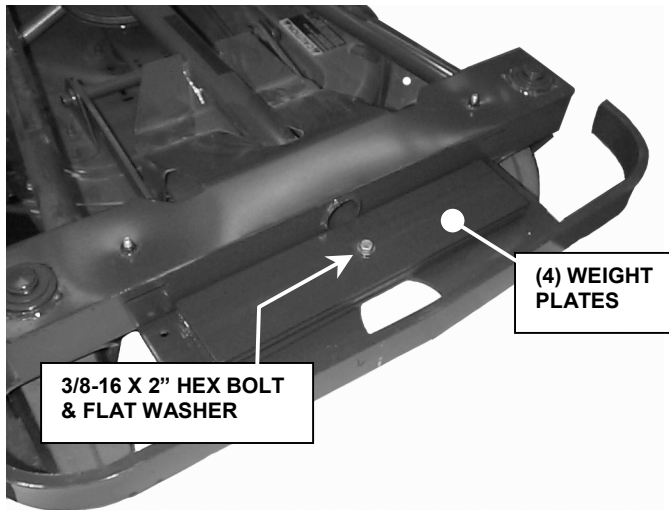

FIGURE 1.4
- Remove (4) knobs attaching floor pan to front frame. Remove floor pan.
- Attach (4) weight plates to front frame using (1) 3/8-16 x 2" hex bolt, (2) 3/8" flat washers, (1) 3/8" split lock washer and (1) 3/8-16 hex nut. Place four weight plates on front bumper and align holes. Insert bolt with flat washer from top. Secure weights in place with flat washer, split lock washer and hex nut. Tighten securely. See Figure 1.4.